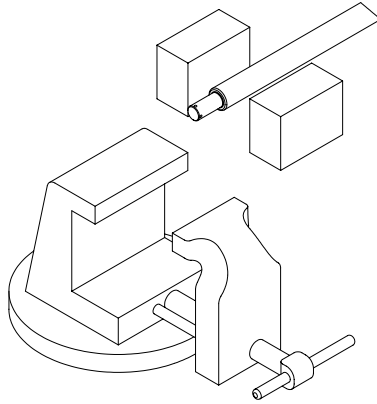

Figure 5-7, Cylinder Shaft
5. Clamp the rod assembly in a soft-jawed vise on the wrench flats, not on the rod surface. If the rod does not have wrench flats use two pieces of wood on both sides of the rod to prevent scarring. (Figure 5-7)